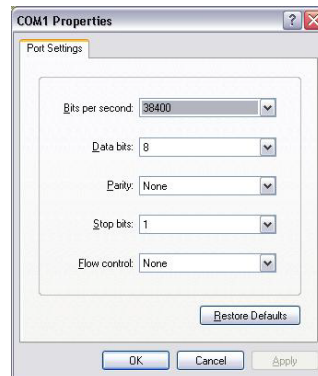

Figure 3: COM1 Properties – HyperTerminal
- On the “COM1 Properties” screen configure as per **Figure 3: COM1 Properties** and Click OK.